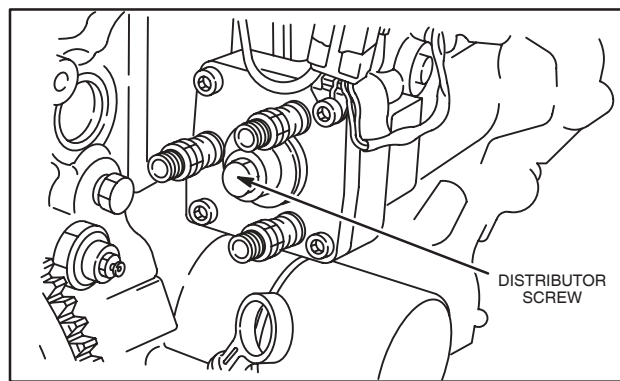

Fig. 6 – Install Distributor Screw
- Remove timing gage and install distributor screw with new washer, Fig. 6.